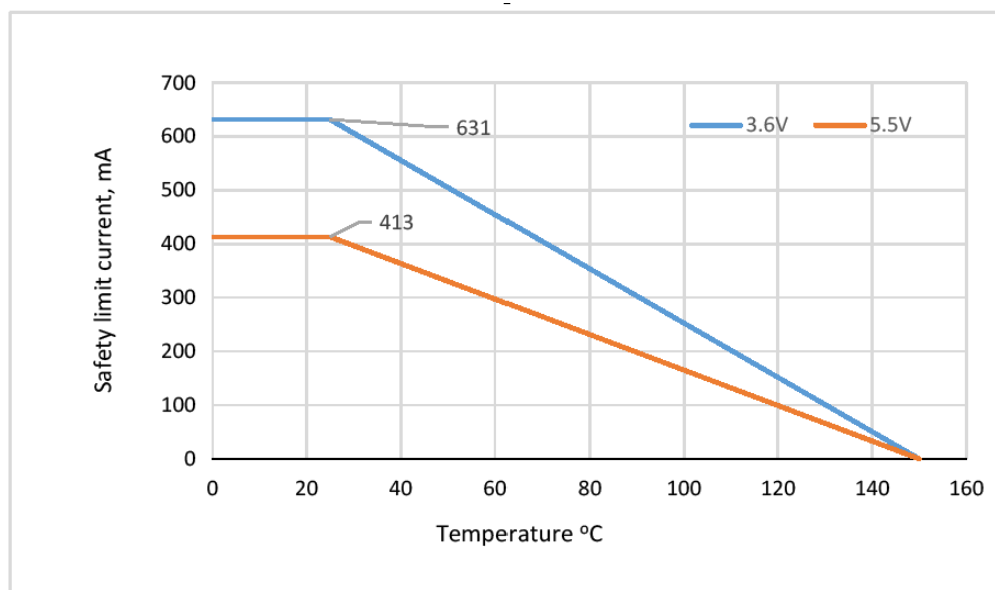

Figure 5.5. WB SOIC-20/24 Thermal Derating Curve (Dependence of Safety Limiting Values per VDE)
1. Maximum value allowed in the event of a failure. Refer to the thermal derating curve in Figure 5.5 WB SOIC-20/24 Thermal Derating Curve \(Dependence of Safety Limiting Values per VDE\) on page 36.